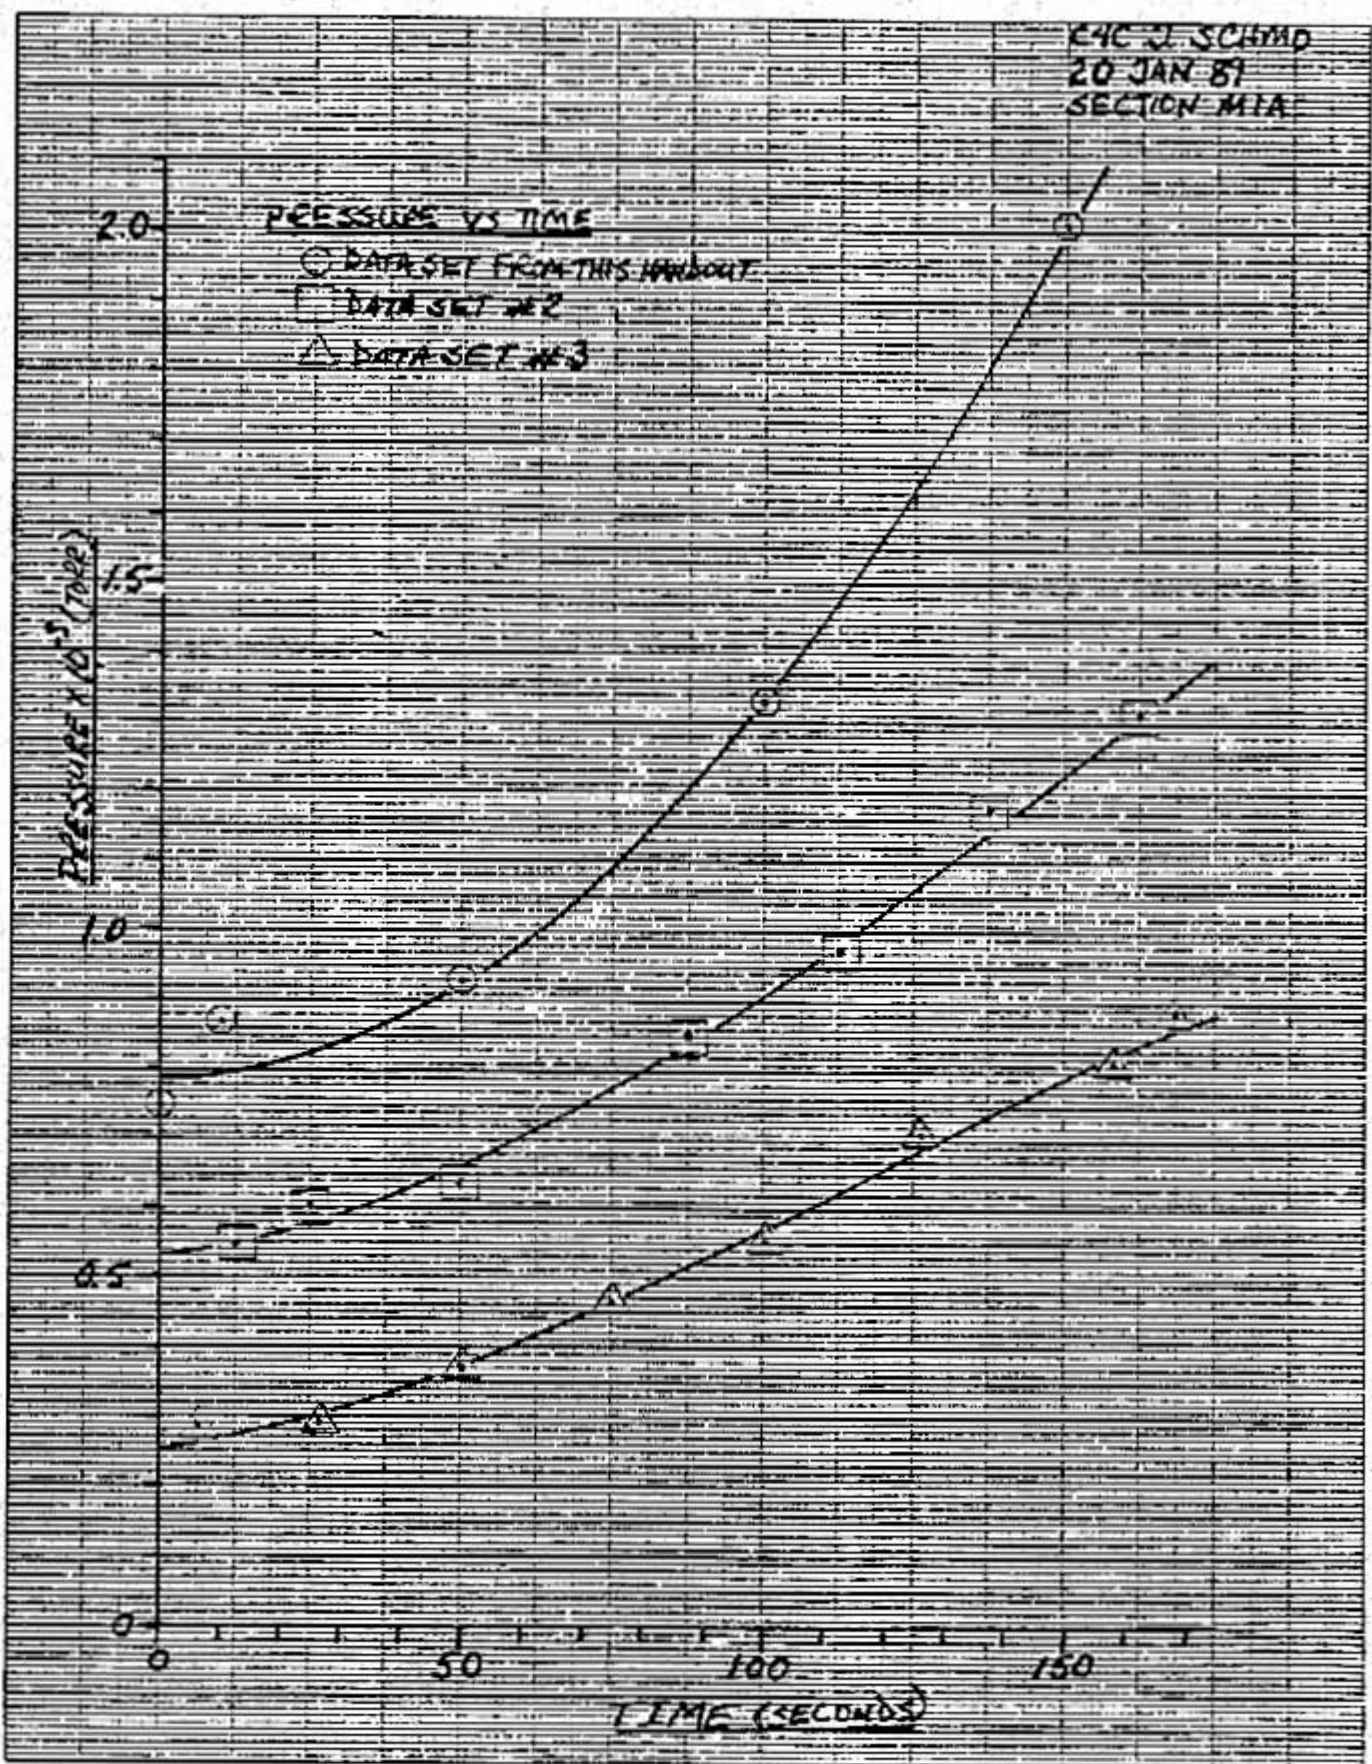

FIGURE 3
In addition, you should scale the axes so that your plot or line will fill most of the graph paper. If you can increase the magnitude of your scale (i.e., spread it out) and still fit the axis on the page, DO IT. Examine your data and identify the range of values you need to plot. For example, your values for the independent variable (X) range from 400 to 800 units, and your graph paper has 25 major divisions along the X-axis you've just drawn. The range of data (400 - 800 + 400) divided by the number of major divisions (25) is 16. Thus, you would "fill" the graph if every major division equalled 16 units. Great, but most graph paper has 10 minor divisions per major division (see Figure 3). Using 16 units for a major division is awkward. Instead, use only 20 major divisions to represent your range of 400 units. Now, the major divisions represent 20 units each, and you've filled your graph paper with graph!
It may be difficult, and it would be inconvenient, to write the number 2010 on the Y-axis. Instead, change the number to  $2.010 \times 10^3$  and label the axis with single whole numbers. This has been done in Figure 3. Each whole number on the axis actually represents a much larger number. You have now chosen a different way to represent the scale on the graph.
The title block contains at least two parts: the graph title and data points legend (as seen in Figure 3). Make your title a short, clear description of the graph's contents. This makes it easier to reference in a text, as well as provide the viewer a starting knowledge of the data portrayed. Always place the title block near the top of your graph (remember, the X-axis is at the bottom).